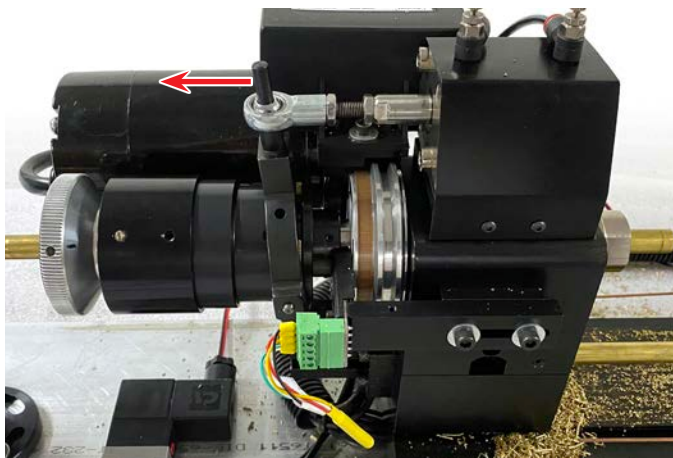

FIGURE 56
6. Now feed the stock through the headstock and the collet. Adjust the lever collet closer clamping pressure as described in the 8815 Pneumatic Cylinder and Component Assembly Instructions to securely close the collet on the stock. You can pull the lever collet closer “stud” back towards the bar feeder by hand to close the collet (see Figure 56).